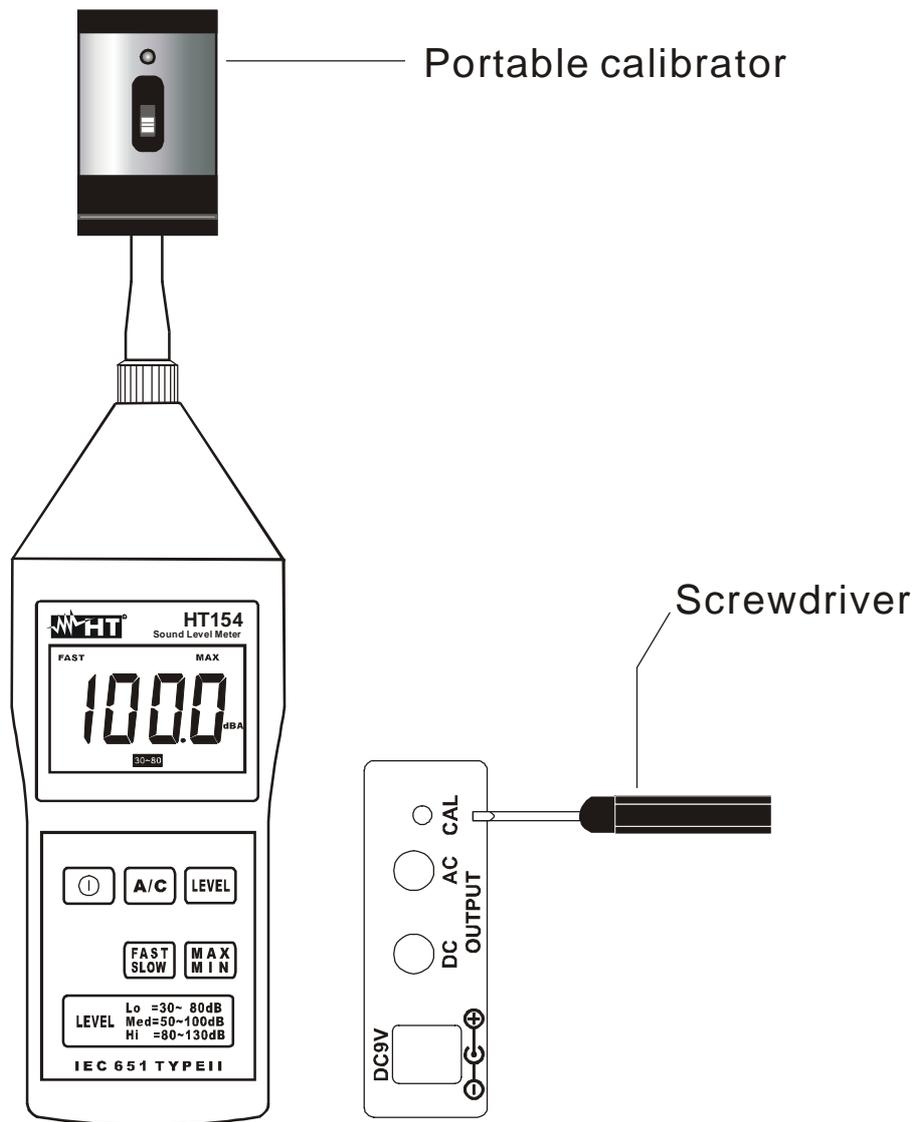

Fig. 4: Connection of meter to portable calibrator HT150
3. Inserting with care the portable calibrator HT150 on meter microphone up to listen a click, as shown in Fig.4.